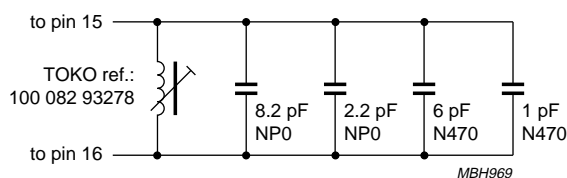
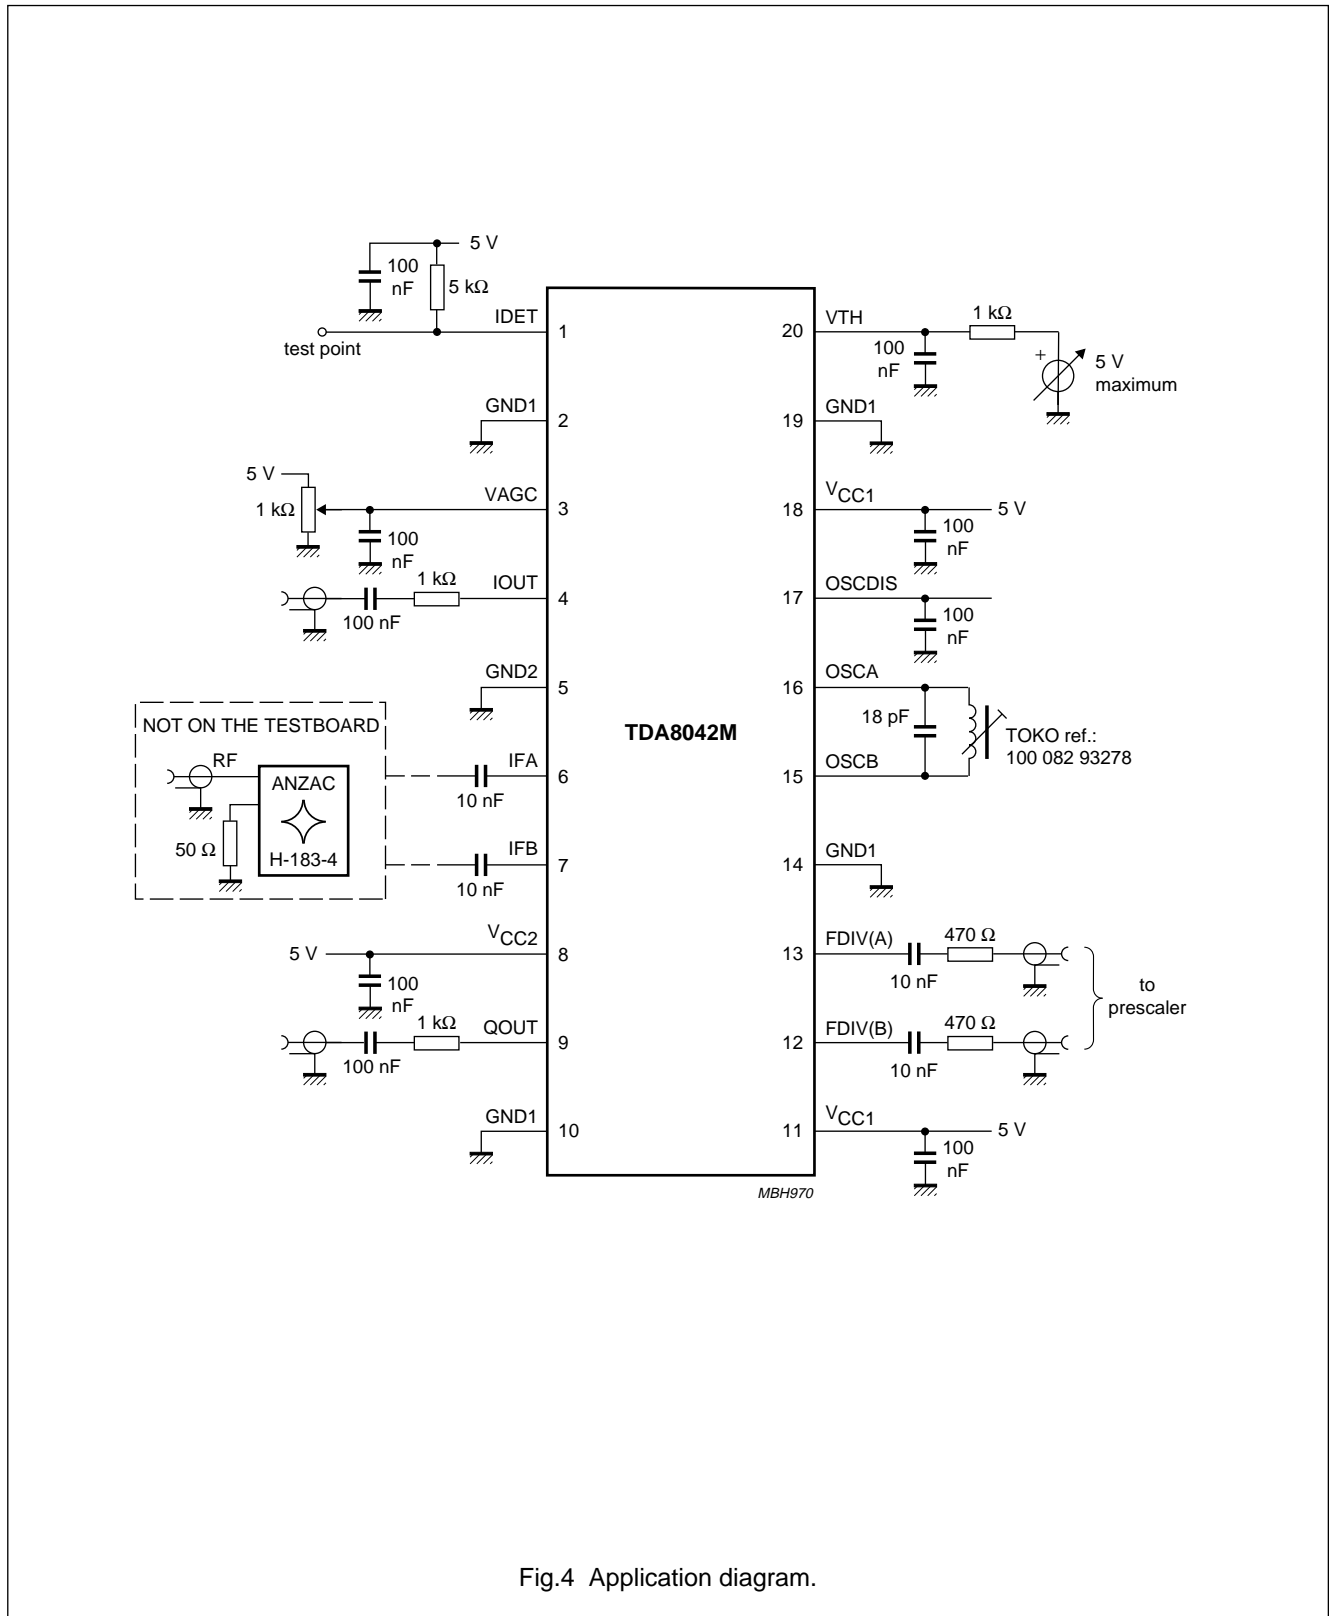

Fig.3 Temperature compensation circuit.
Fig.4 Application diagram.
$V_{CC} = 5\text{ V}$ ;  $T_{amb} = 25\text{ }^{\circ}\text{C}$ ;  $R_{L(IQ)} = 1\text{ k}\Omega$ ; measured in application circuit of Fig.4; unless otherwise specified.
10. The drift of the oscillator frequency with temperature is defined for  $\Delta T_{amb} = 25$  °C. It is measured in the application circuit (see Fig.4) with a temperature compensated tank circuit. The temperature compensation used for this measurement is realized using the application which is depicted in Fig.3.